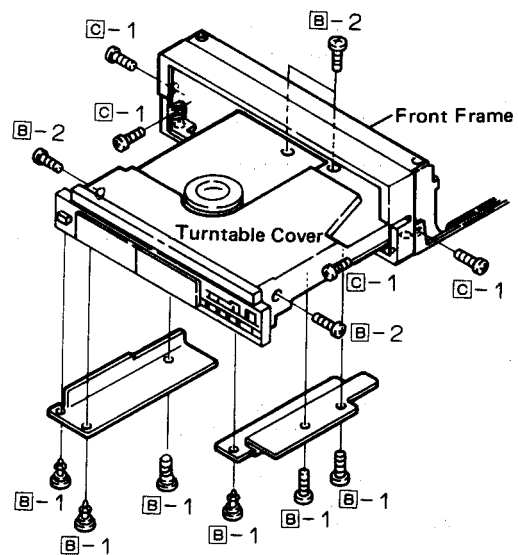

Figure 4-2
1. Turn the unit over, and remove three screws and three push rivets from the bottom plate of the turntable chassis. Then take off the bottom plate of the turntable chassis. See Fig. 4-2.
2. Remove four screws from the turntable cover (one at the right, one at the left and two at the top), and take the turntable cover off. See Fig. 4-2.
1. Remove four screws from the front frame, and withdraw the front frame. See Fig. 4-2.